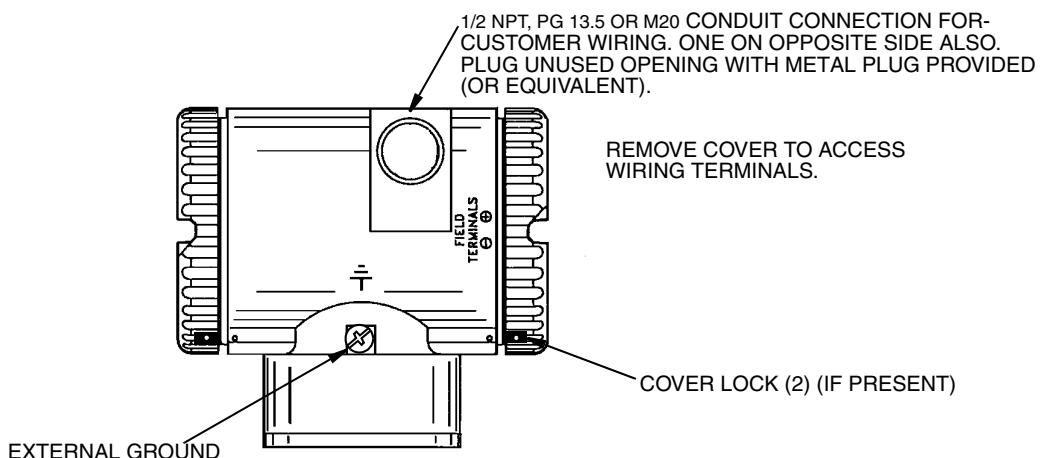

Figure 30. Accessing Field Terminals
Electronic housing cover locks, shown in Figure 30, are provided as standard with certain agency certifications and as part of the Custody Transfer Lock and Seal option. To lock the covers, unscrew the locking pin until approximately 6 mm (0.25 in) shows, lining up the hole in the pin with the hole in the housing. Insert the seal wire through the two holes, slide the seal onto the wire ends and crimp the seal.
For access to the field terminals, thread the cover lock (if present) into the housing to clear the threaded cover and remove the cover from the field terminals compartment as shown in Figure 30. Note that the embossed letters **FIELD TERMINALS** identify the proper compartment.
- Run signal wires (0.50 mm² or 20 AWG, typical) through one of the transmitter conduit connections as shown in Figure 30. Use twisted pair to protect the 4 to 20 mA output and/or remote communications from electrical noise. Maximum recommended length for signal wires is 1800 m (6000 ft)
2. Run the supply voltage and output wires (0.50 mm^2 or 20 AWG, typical) through one of the transmitter conduit connections as shown in Figure 30. If four-wire connection is used, use twisted single pair on the output side to protect the 1 to 5 V dc output from electrical noise.